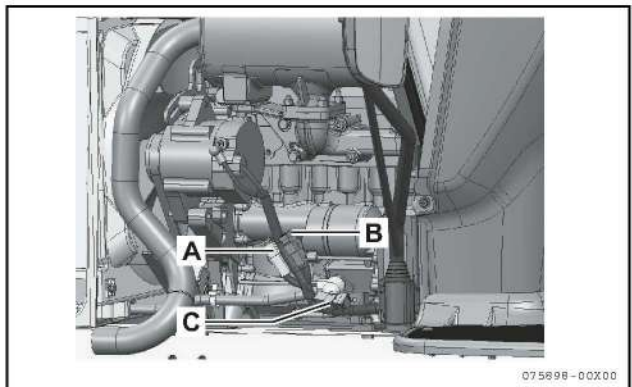

Fig 15-7
6. Locate the fuses, refer to the illustration shown (Fig 15-7).